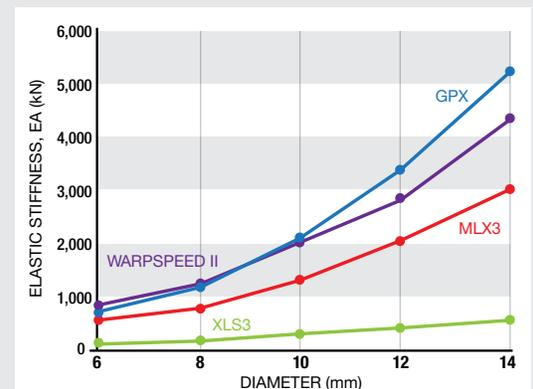

FIGURE 1 Stiffness vs. Diameter. Elastic stiffness allows the comparison of different diameters of the same line.
As a rule of thumb, the higher the elastic stiffness (EA), the stiffer the rope. This allows the sailor to compare the elastic stiffness of two different diameters of the same line or two different lines directly and, using a simple calculation, determine the change in length that the rope will exhibit under a given load. See Fig. 1.